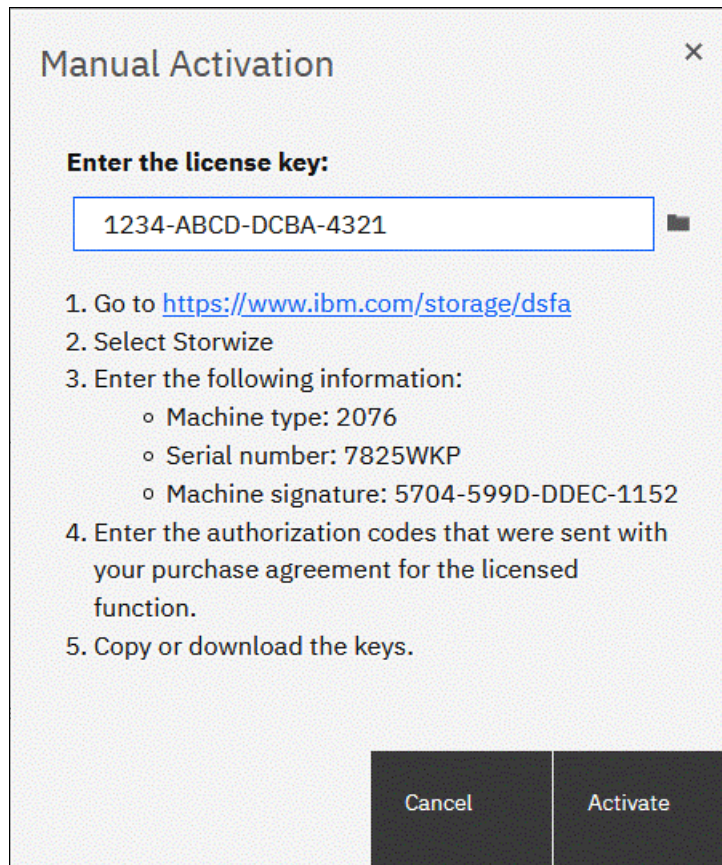

Figure 12-18 Entering an encryption license key
3. You can enter the license key either by typing it, pasting it, or clicking the folder icon and uploading the license key file to the storage system that was downloaded from DSFA. In Figure 12-18, the sample key is entered. Click **Activate**.